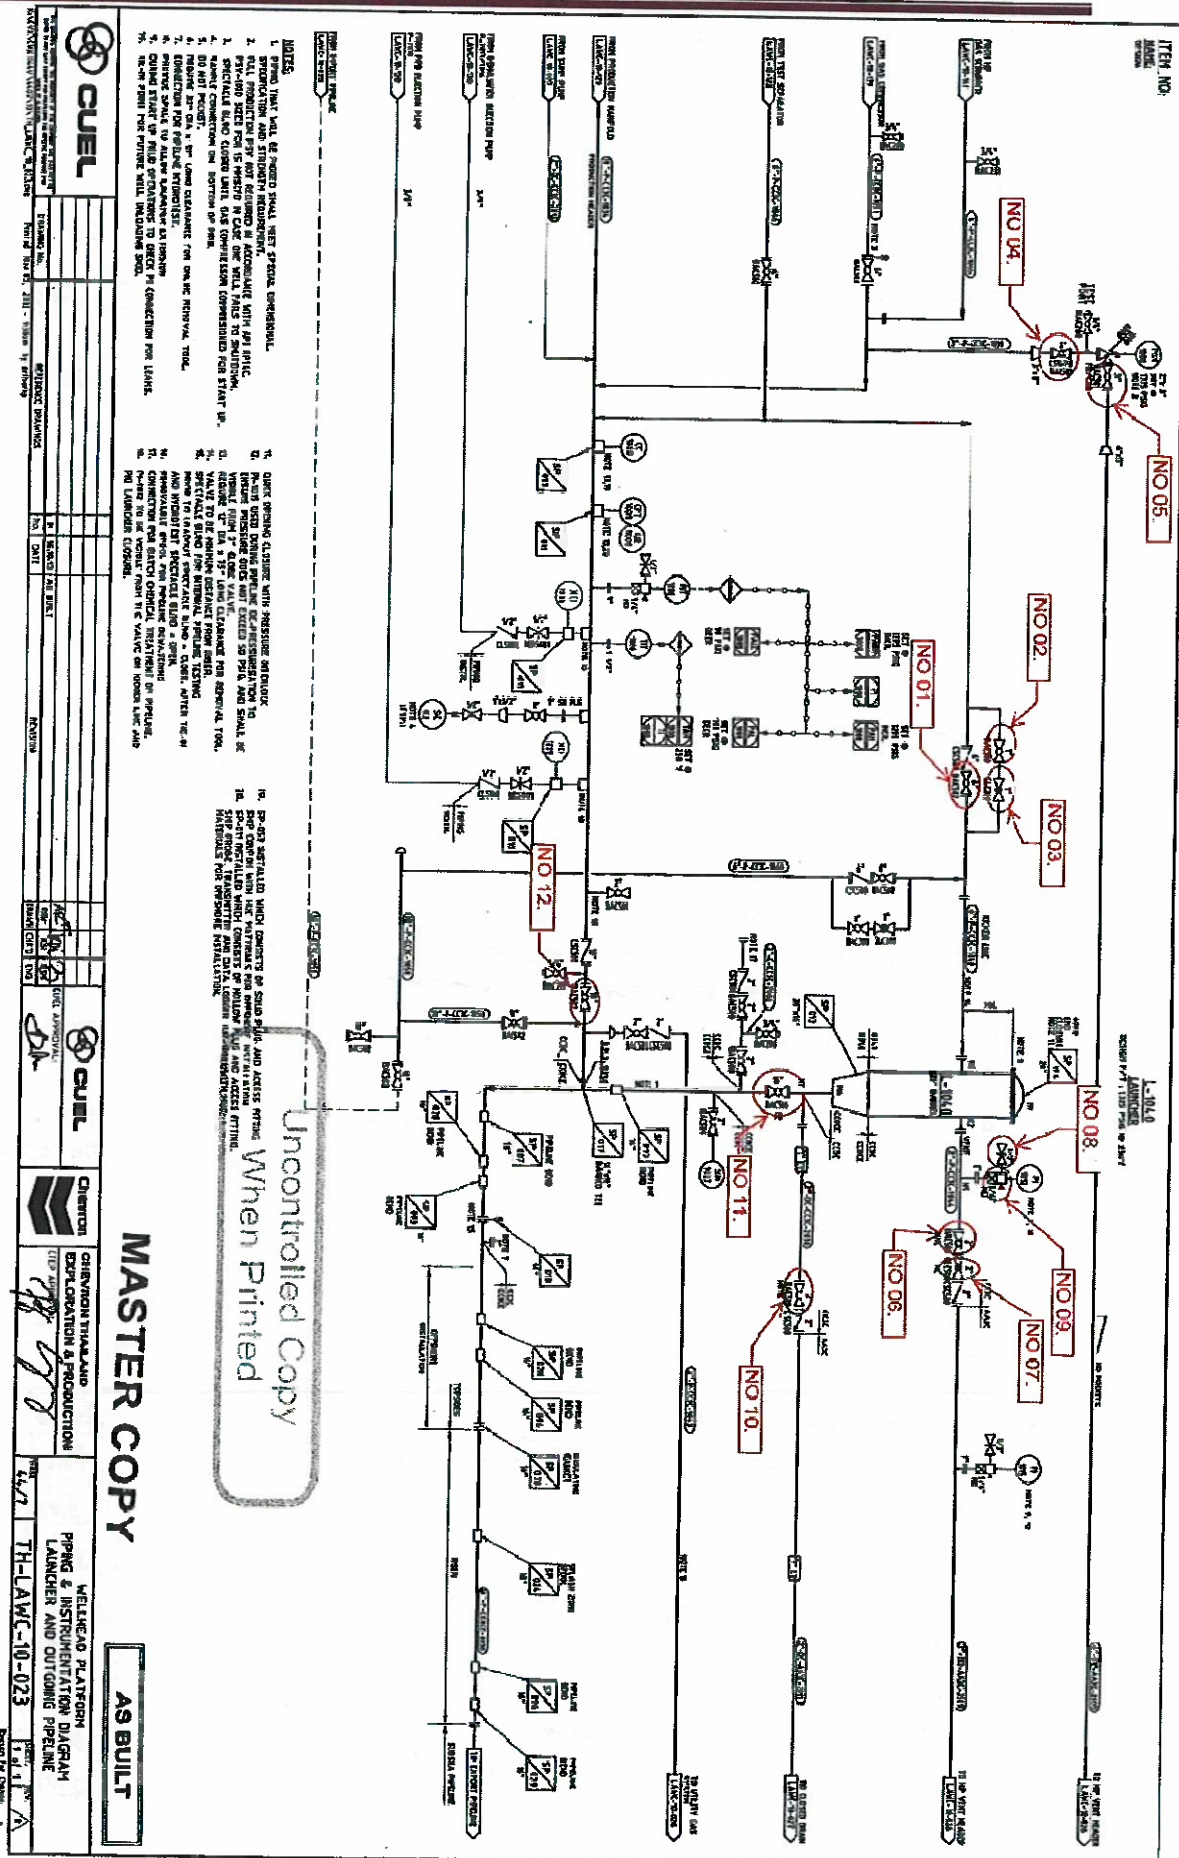

Figure 1.
4.5. Refer to Fig. 1, Confirm the status valves as followed: